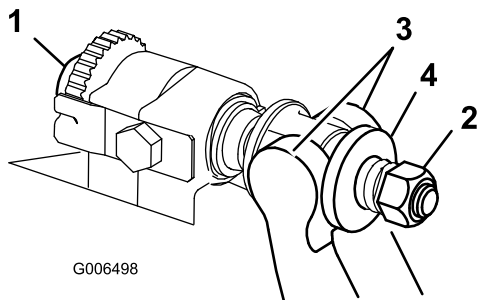

Figure 33
1. Turn bedbar adjuster screws, counterclockwise, to back bedknife away from reel (Figure 33).
2. Back out the spring tension nut, until the washer is no longer tensioned against the bedbar (Figure 33).